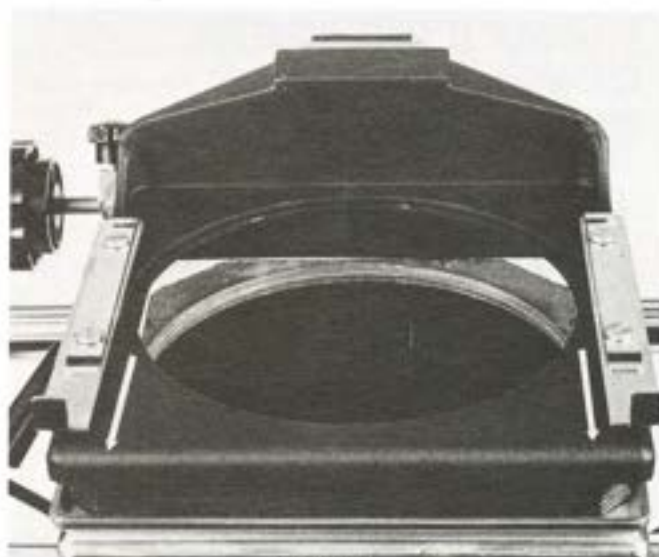

Figure 4
1. Make sure the latches on the support stage are pulled forward (Fig. 4).